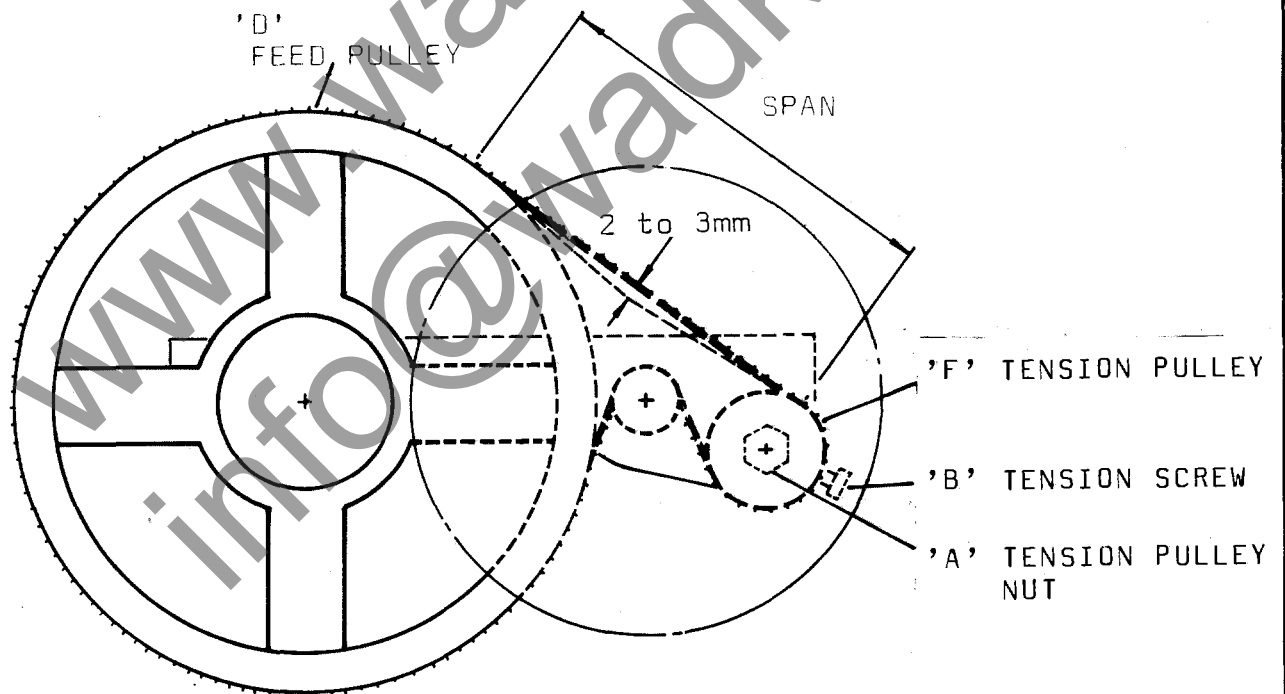

FIG. 23B
- h) Refer to FIG.23B. Position belt around tension pulley 'F' then turn belt so as to reverse teeth from inside of belt to outside. Position belt around feed pulley 'D'.
**IMPORTANT:** Belt must be tensioned very tight. This will have been achieved when belt can be deflected 2 to 3mm in centre of span FIG.23B.